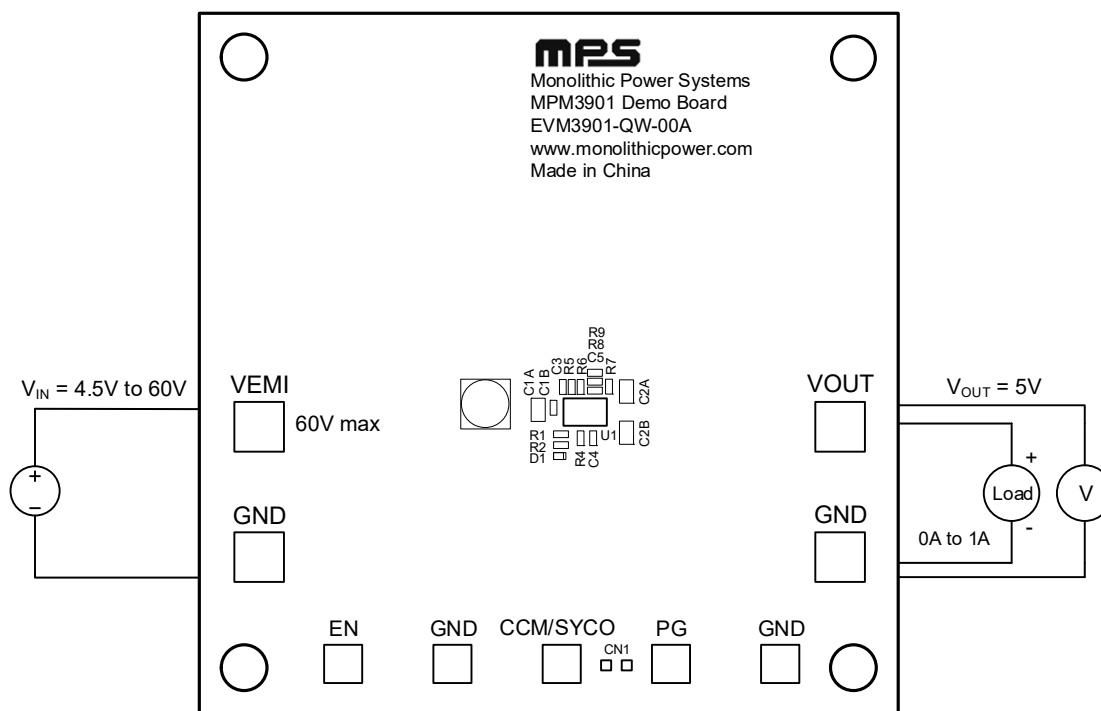

Figure 2: Measurement Equipment Set-Up
The EVM3901-QW-00A evaluation board is easy to set up and use to evaluate the MPM3901's performance. For proper measurement equipment set-up, refer to Figure 2 on page 4 and follow the steps below:
10. Figure 2 shows the measurement equipment set-up.